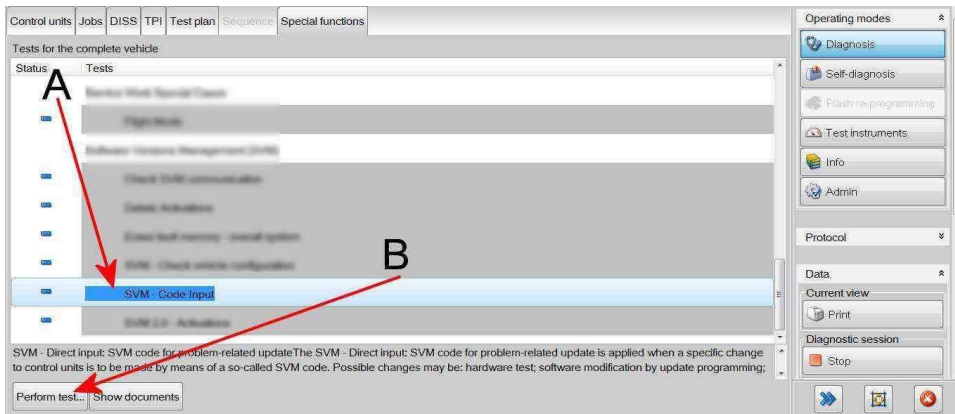

Figure 1
- Because of the highest transmission stability you MUST use the diagnosis interface VAS 6154 (WiFi diagnostic tool) ONLY in USB operation or the cable-connected VAS 5055 for the reprogramming (updating) of control units. If these units are not available, the diagnosis interface VAS 5054 (A) can also be used in USB mode
- Referring to Figure 1 - Within the Special functions tab - Select SVM - Code Input (Point A)